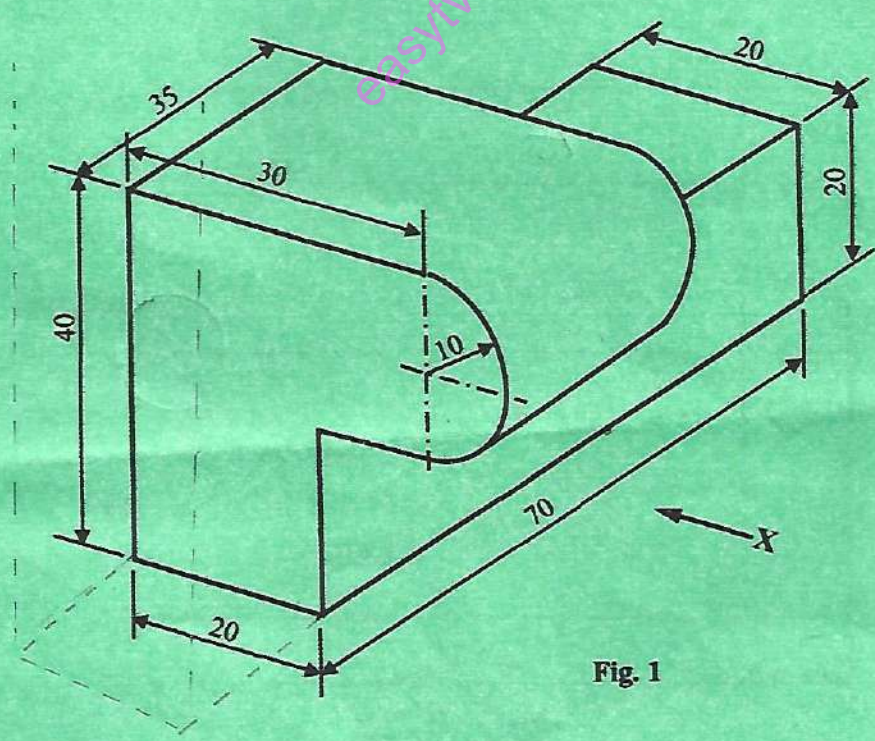

Fig. 1
5. Figure 1 shows an isometric view of an object. Draw the following for the object using first angle projection: